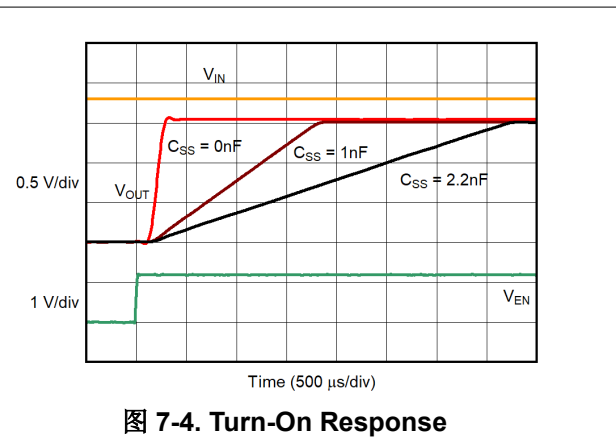

图 7-4. Turn-On Response
3. Select a minimum of a 2.2- μF ceramic output capacitor. Increased output capacitance helps the output load transient response. 图 7-4 gives examples of the load transient response with different output capacitor values and types.